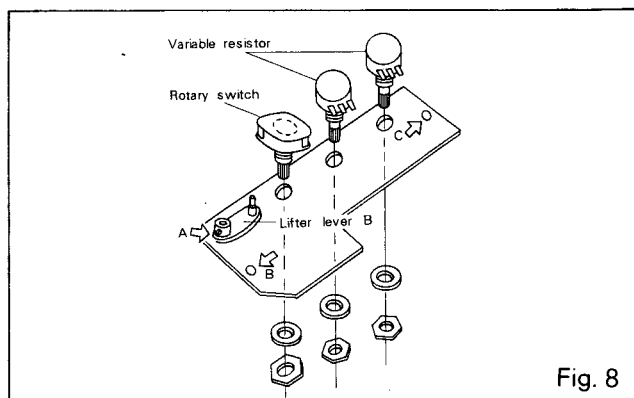

Fig. 8
6. REMOVE THE LIFTER LEVER A AND B (Fig. 8)
(Fig. 8)